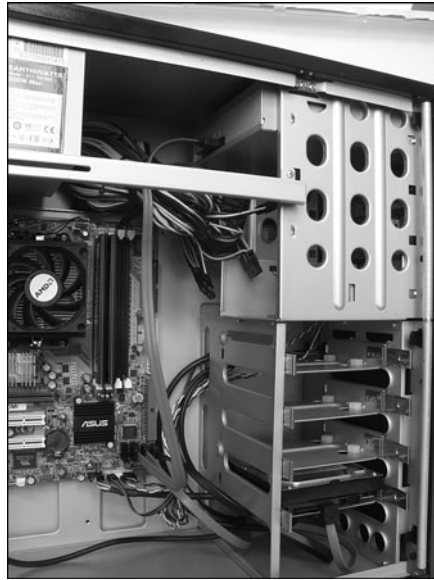

FIGURE 14.23
8. Run a SATA interface cable from the optical drive's interface connection to one of the motherboard's SATA headers, as shown in Figure 14.23.